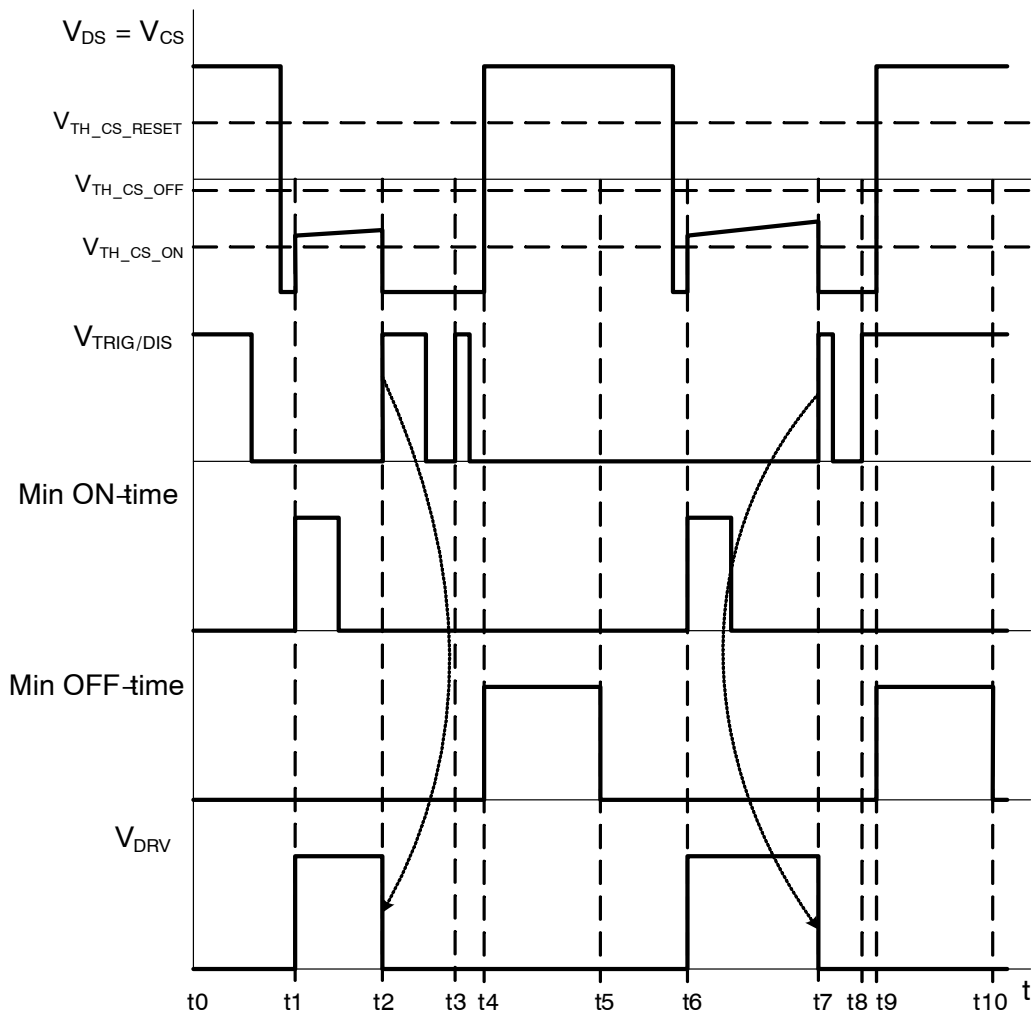

Figure 57. Trigger Input Functionality Waveforms – Two Pulses at One Cycle
Figure 57 shows IC behavior in case the trigger signal features two pulses during one cycle of the VDS (CS) signal. The trigger goes low enables the DRV just before time t_1 and DRV turns-on because the VDS voltage drops under $V_{TH_CS_ON}$ threshold voltage. The trigger signal disables driver at time t_2 . The trigger drops down to LOW level in time t_3 , but IC waits for complete minimum off-time. Minimum off-time execution is blocked until CS pin voltage